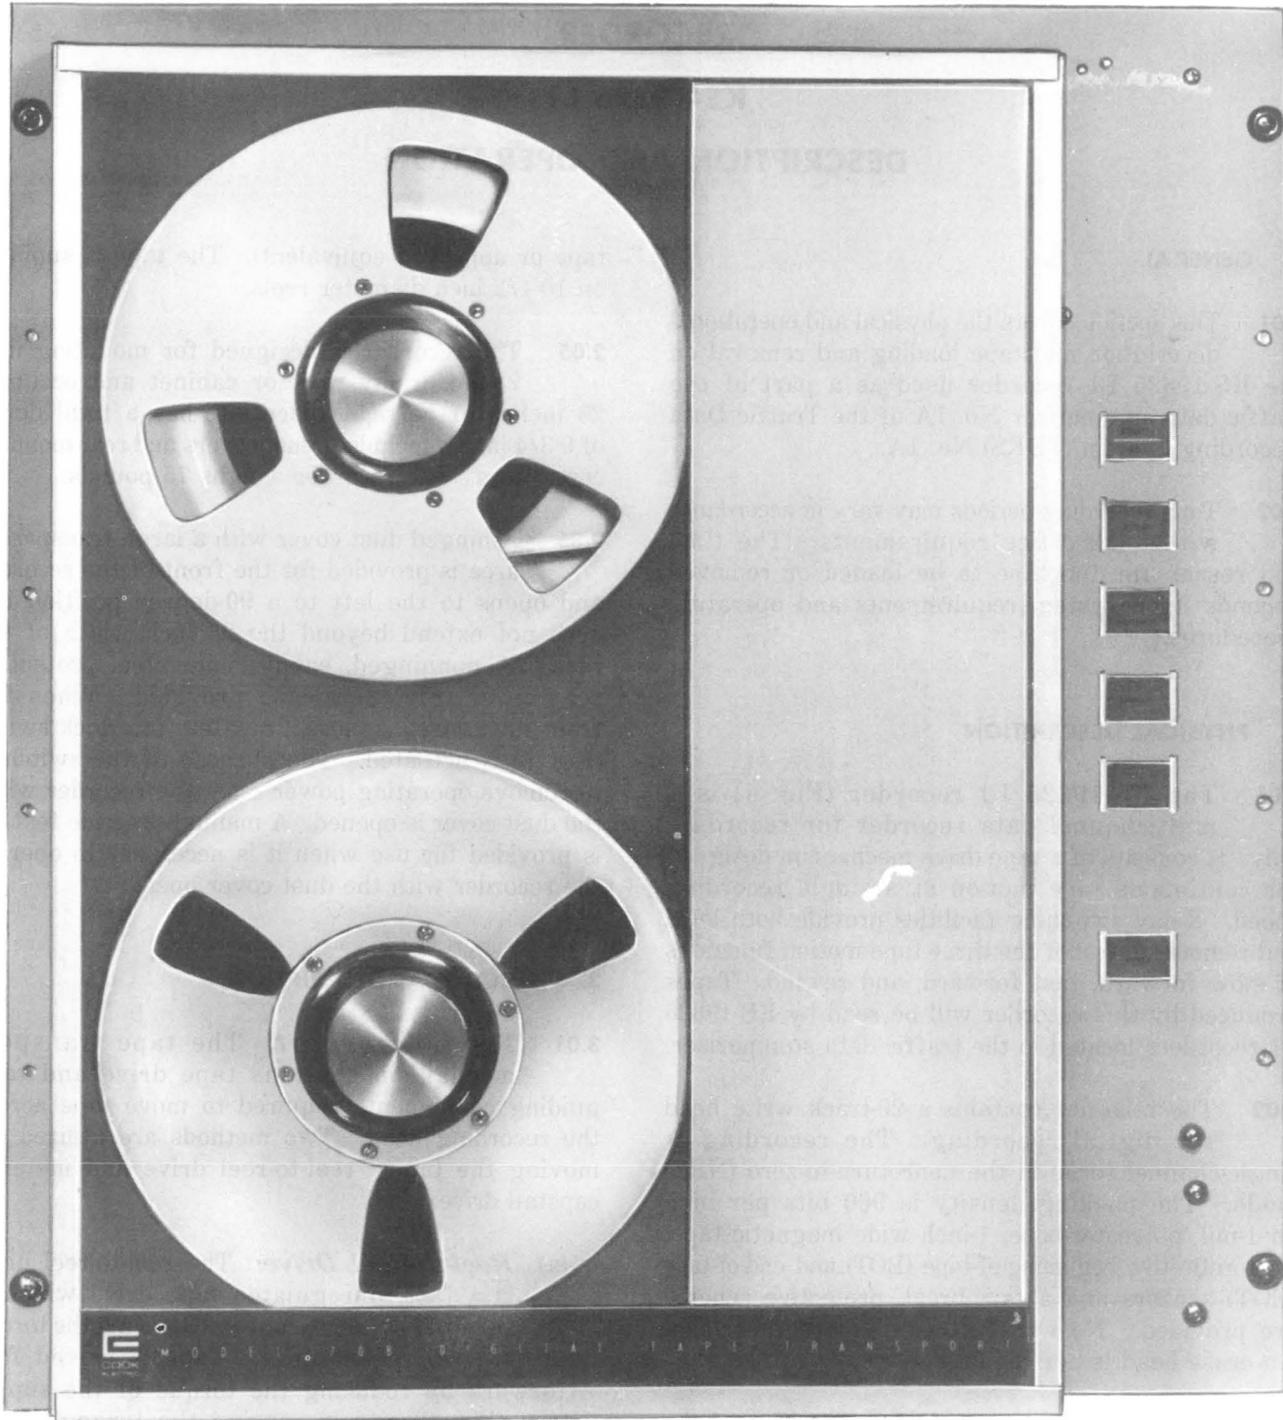

Fig. 1—KS-19325 L1 Recorder—Front View
2.01 The KS-19325 L1 recorder (Fig. 1) is a multichannel data recorder for recording only. It consists of a tape drive mechanism designed for continuous tape motion at a single recording speed. Relay switching facilities provide both local and remote control of the three tape motion functions of slow forward, fast forward, and rewind. Tapes produced by this recorder will be read by KS-19326 L1 recorders located in the traffic data summarizer.